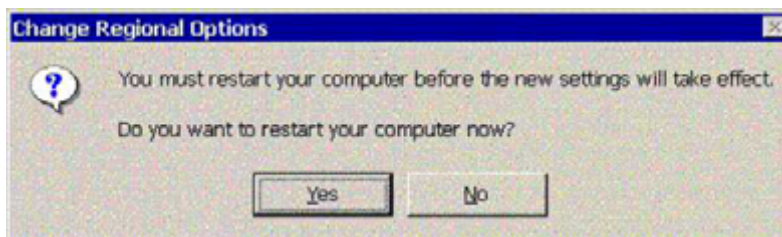

Fig. 16: Restart your computer
- ⇒ The **You must restart ...** dialog then appears (Fig. 16 / p. 18). Close the window via **No**.